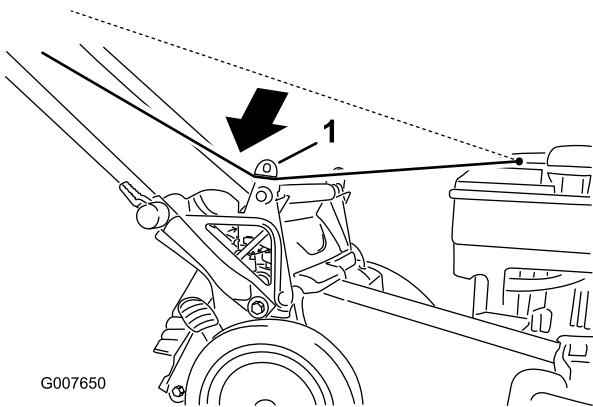

Figure 23
1. Route the starter rope around the lower-rope guide (Figure 23).
- Install the rear-discharge plug (Figure 23).